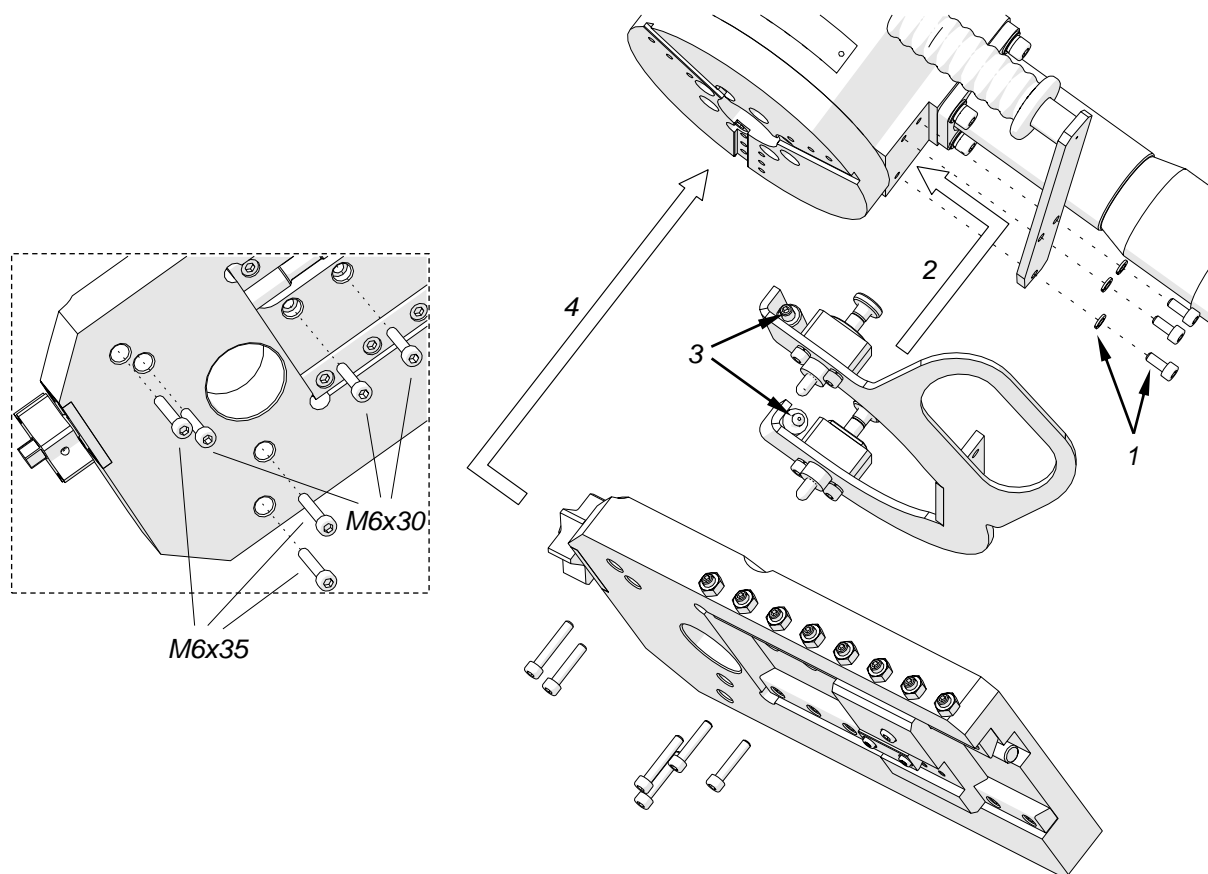

Fig. 7. Installing the flange facing attachment
Next, remove the machine handle by unscrewing three screws with washers (1, Fig. 7), and use them to install the holder with two tripper blocks (2). Then, use the 4 mm hex wrench to tighten the set screws 3 at both sides of the holder, and install the milling unit to the spindle disk (4) with six screws using the 5 mm hex wrench.